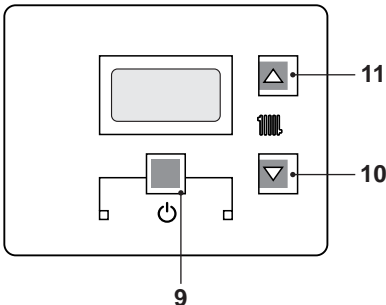
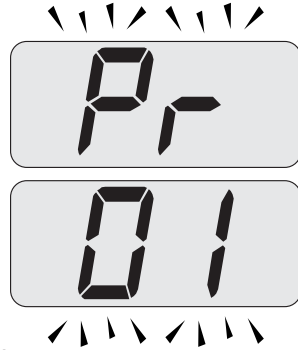
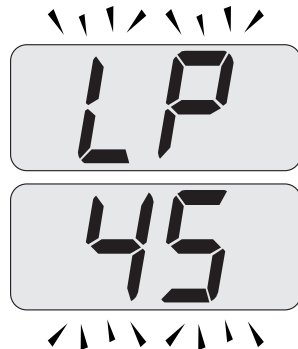
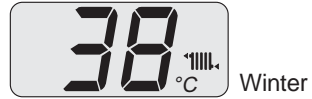

Fig. 9.10
Fig. 9.11
Fig. 9.12
Fig. 9.15
- Enter in "programming mode" by pressing keys 9 - 10 - 11 (Fig. 9.10) for 10 seconds at the same time until the letters **Pr** that alternate with code **01** are displayed on the LCD display, indicating that "parameter 01"(Fig. 9.11) has been activated.
- Press keys 10 and 11 (Fig. 9.10) at the same time until the LCD display displays the letters **LP** that alternate with the heating water temperature value (e.g.45), indicating the activation of the "chimney sweep function" at minimum output (Fig. 9.12).
- Press keys 9 - 10 - 11 (Fig. 9.10) at the same time again to exit the "chimney sweep mode" and return to the previously set boiler status (Fig. 9.15).